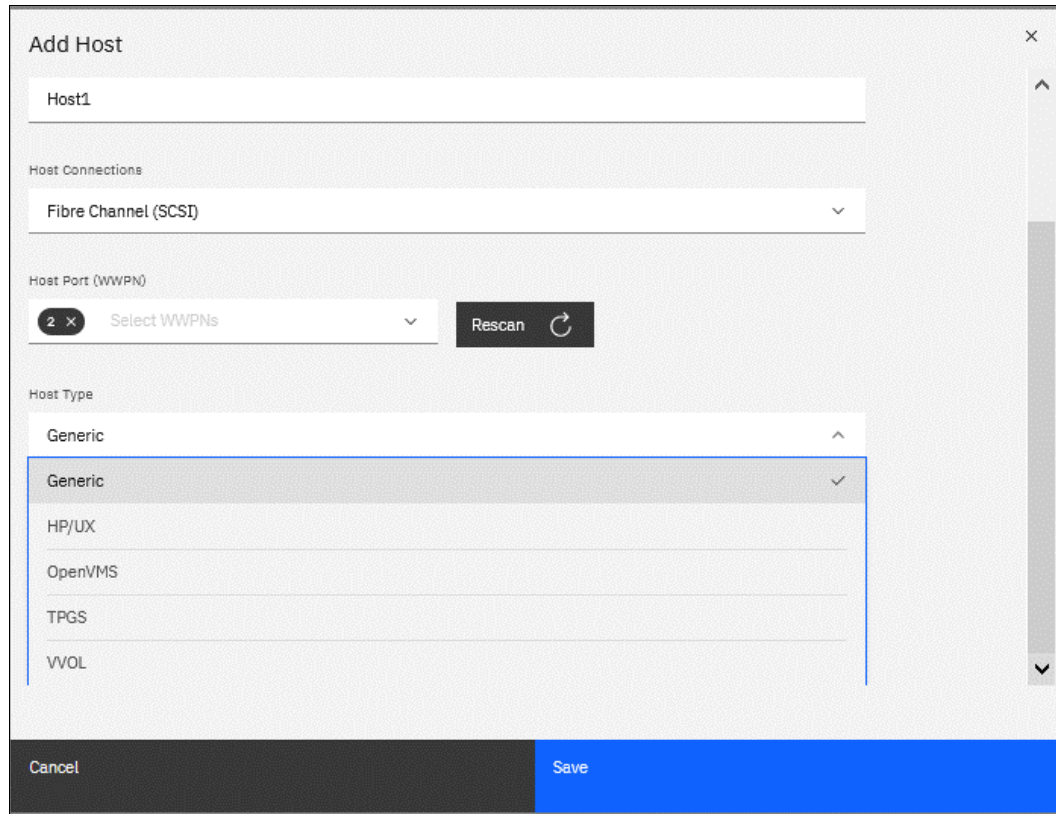

Figure 7-9 Host types selection
5. If you are creating a Hewlett-Packard UNIX (HP-UX) or Target Port Group Support (TPGS) host, click the **Host type** list (see Figure 7-9). Select your host type. If your specific host type is not listed, select **Generic**.